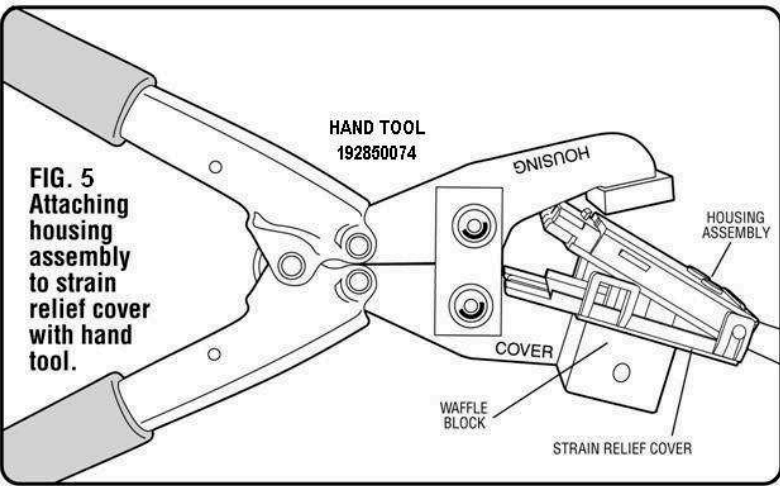
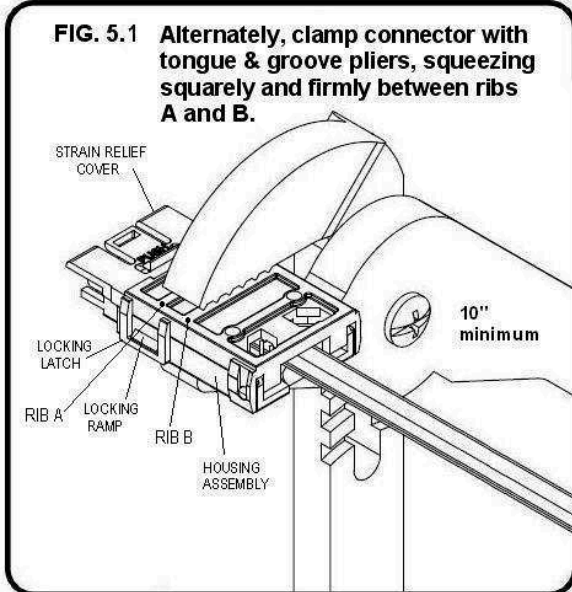

FIG. 5
FIG. 5.1 Alternately, clamp connector with tongue & groove pliers, squeezing squarely and firmly between ribs A and B.
- Close the strain relief cover and housing by hand. Place the connector assembly into Molex tool (preferred) as shown in **Figure 5**. Squeeze the tool until the connector bottoms out and the locking latches engage on both sides. OR alternately, squeeze the top and bottom closed with tongue and groove pliers as shown in **Figure 5.1**. Pliers must be a minimum of 10" long. Squeeze firmly on both sides, squarely across the connector between ribs A and B to ensure wires seat completely into slots.